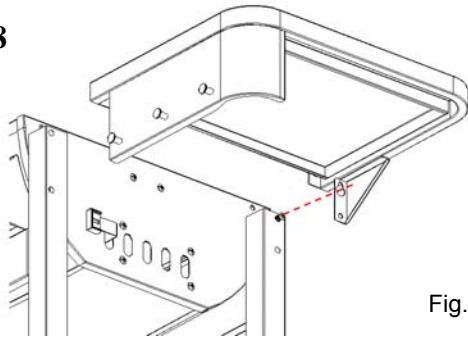

Fig. 18A
*Locate:* (6) M6x12 bolts
Attach (1) M6x12 bolt to the right of the cabinet as shown as Fig. 18A. **NOTE: DO NOT TIGHTEN THE BOLT AT THIS TIME.**